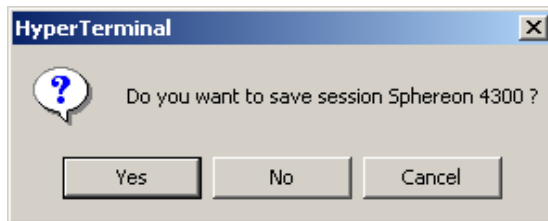

Figure 3-12 HyperTerminal Dialog Box
- m. Click *Yes*. A second *HyperTerminal* dialog box displays (Figure 3-12).